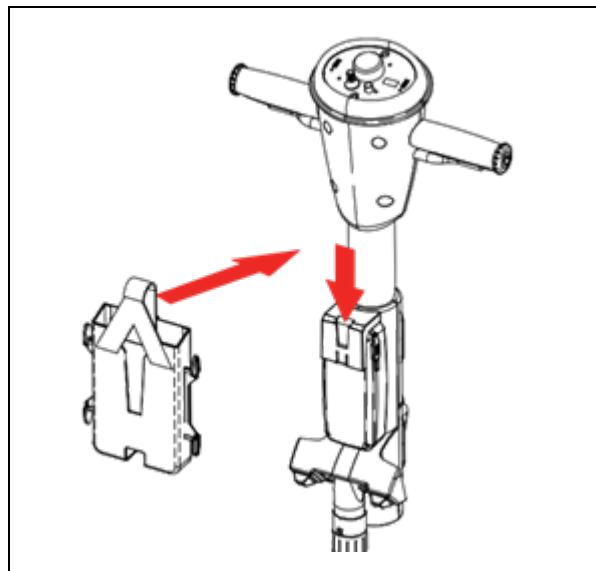

Figure 14
1. Slide the rear of the cellphone holder (Figure 14) into the slot of the holder.